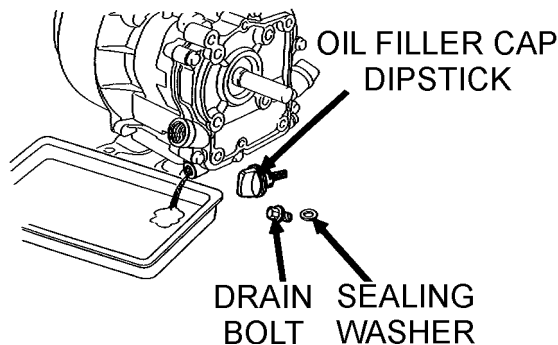

Figure 12. Engine Oil (Draining)
1. Drain the engine oil when the oil is warm as shown in Figure 12.